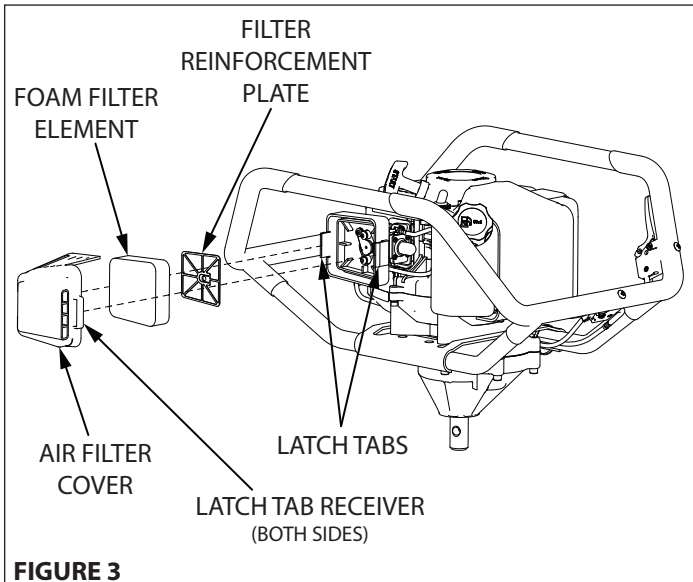

FIGURE 3
2. To remove air filter cover, squeeze the latch tabs on both sides of the cover. **SEE FIGURE 3**